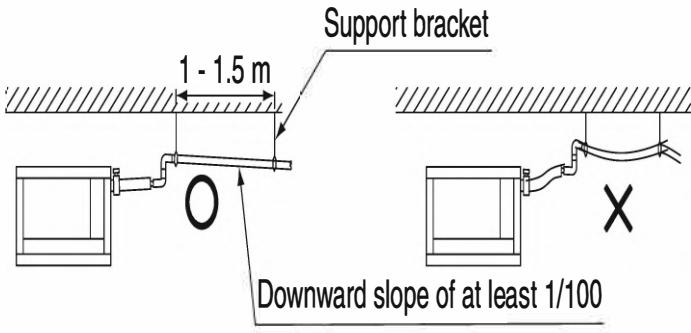

Fig. 10
- Install the drain piping as short as possible with downward inclination of 1/100 or more and without such that air may not stagnate. (Refer to Fig.10)
- Install supports at a distance of 1 to 1.5 m so that the piping may not deflect (Refer Fig. 10)
- Make sure to use the attached drain hose (2) and the metal clamp (1).